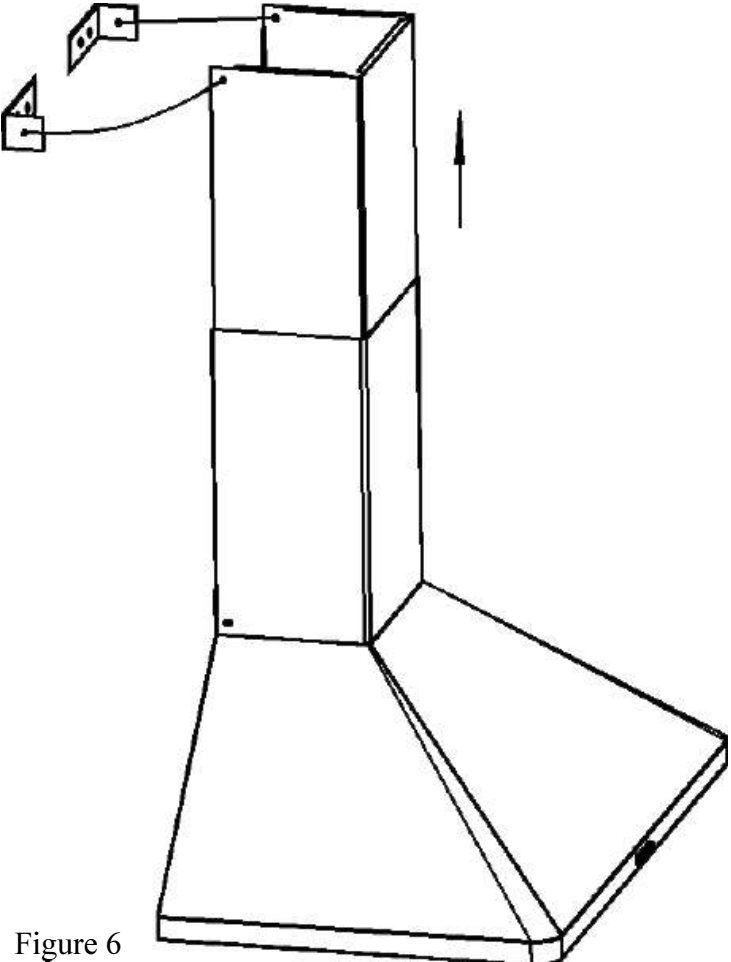

Figure 6
10. To avoid scratching the chimney, extend the upper chimney slowly and carefully to the chimney-mounting bracket and tighten screws as shown in Figure 6.